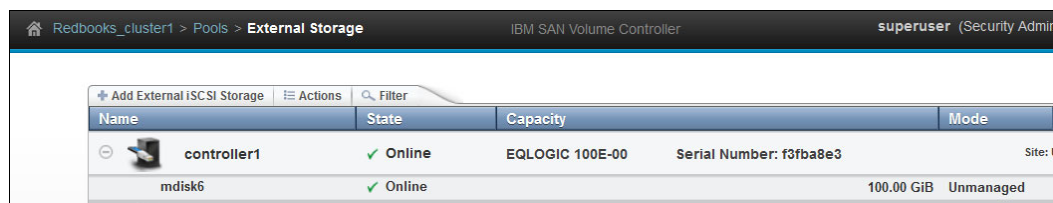

Figure 14-33 Added external Dell controller to the SAN Volume Controller system
12. To validate the added external storage controller, click **Pools** → **External Storage**. The newly added Dell Controller window opens, as shown in Figure 14-33. Click the plus sign (+) to see the MDisks that are associated with the controller and validate the correct status of the MDisks.